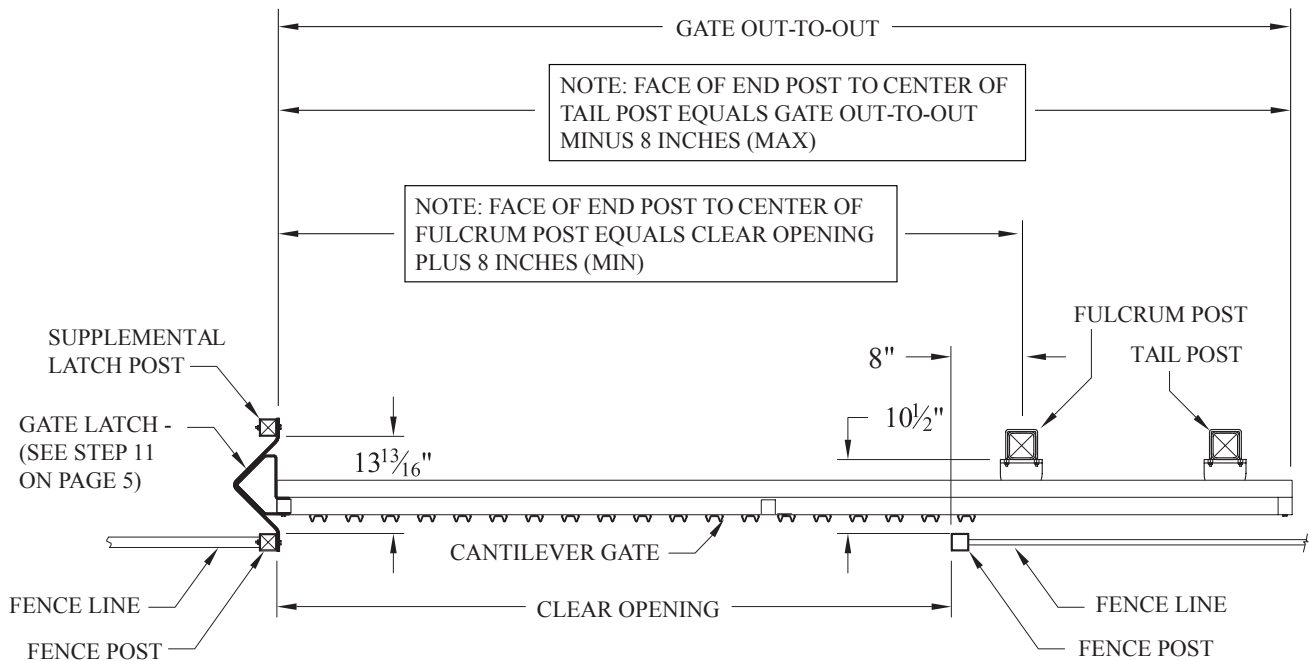

FIGURE 1
1. All gates require two 4" square truck bracket mounting posts, one to act as Fulcrum Post, the second as Tail Support Post. Set these mounting posts in an off-line configuration as shown in Figure 1. Check grade conditions to ensure posts are set to proper height; allow no more than four (4) inches from bottom of gate to grade. A Supplemental Latch Post, located as shown in Figure 1, is required to mount patented offset latches (see Step 11 - Page 5).